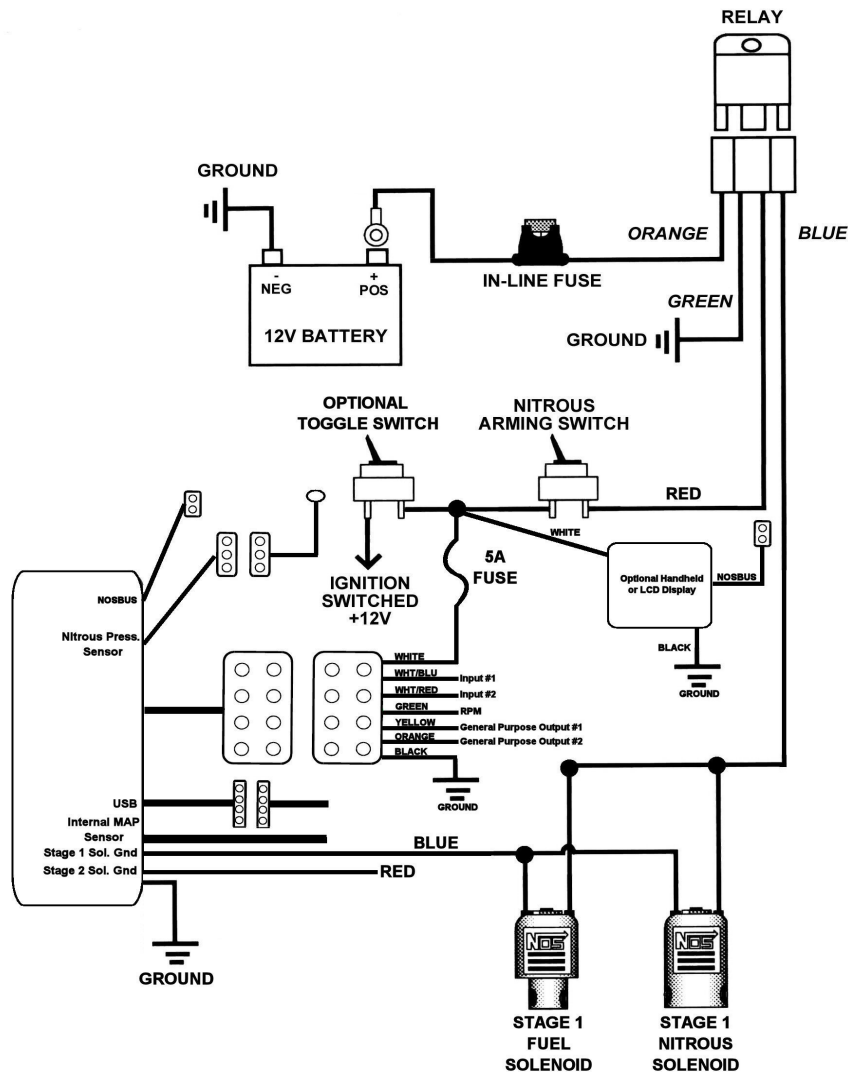

FIGURE 1 MASTER WIRING
10. The 12 ga Blue and Red wires are the solenoid ground outputs. The system works by providing a **ground** to the solenoids. These wires are to be connected directly to the solenoids. Power must be supplied separately to the solenoids by utilizing an appropriate relay. See figure 1.
1. If the Hand-Held Controller or Touch Screen LCD is used, it should be installed and wired at this time. These units have a power and ground wire as well as NOSbus connection. Connect the white power wire to a fused switched 12 volt power source. Connect the black (ground) wire to a good chassis ground. See figure 1. The optional toggle switch can be installed if the user wishes to not have the LCD and/or main controller powered at all times.